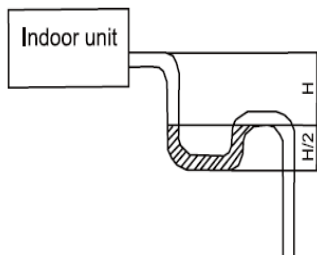

Figure 3-1-52
- (4) When the drain hose cannot keep a sufficient gradient, it is necessary to fit a riser pipe (field supplied) to it.
- (5) If the air flow of indoor unit is high, this might cause negative pressure and result in return suction of outdoor air. Therefore, U-type water trap shall be designed on the drainage side of each indoor unit. (Figure 3-1-52)
- (6) Install one water trap for each unit.
- (7) Installation of water trap shall consider easy cleaning in the future.